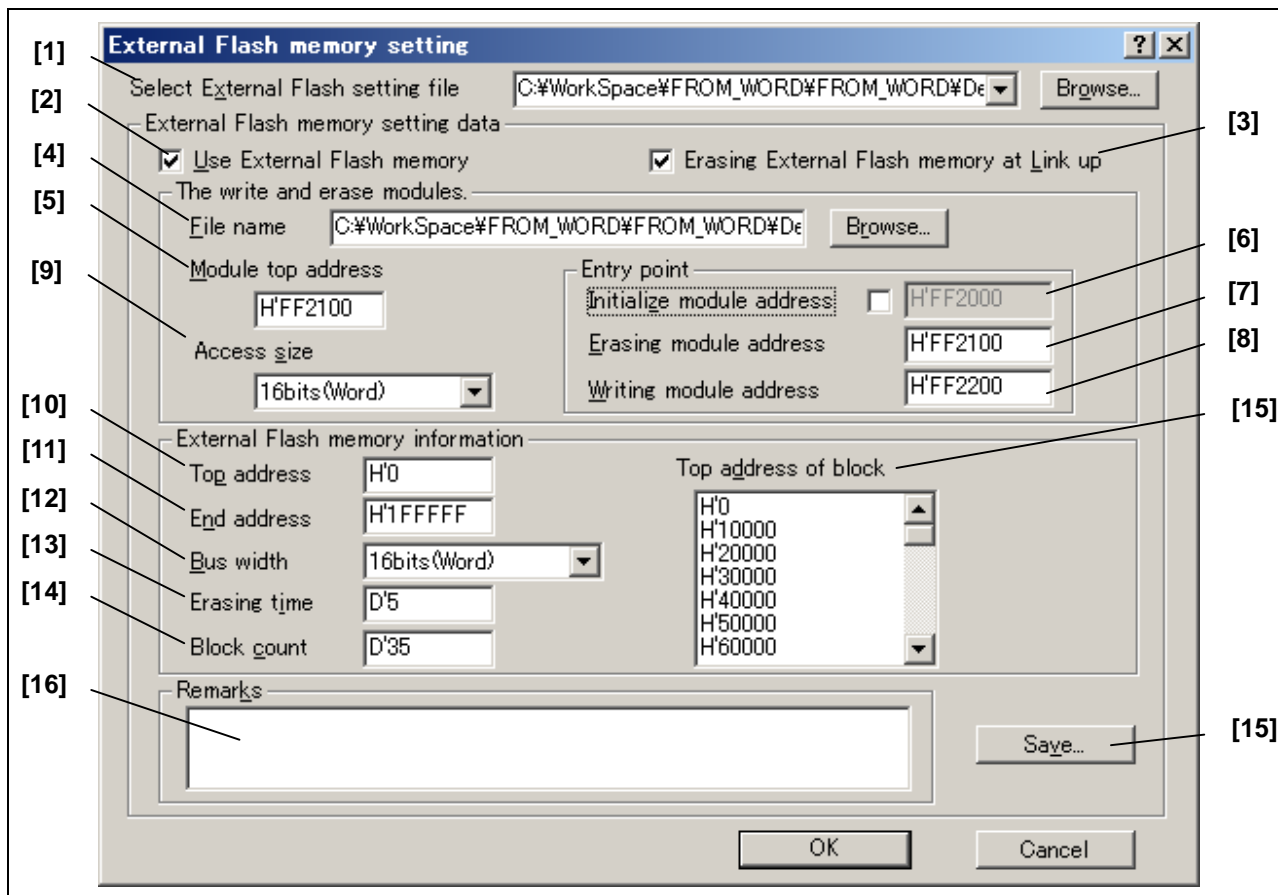

Figure 7 [Flash memory setting] Dialog Box
- (7) The [Flash memory setting] dialog box shown in Figure 7 is displayed. Set the Execution File name and the external flash memory information. For details, please refer to section 5.2, Setting the [Flash memory setting] Dialog Box.